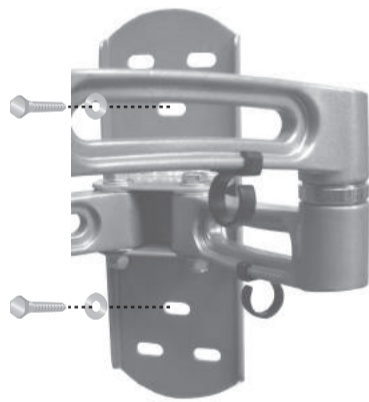

Fig. 1 - Attach the wall plate to the wall.
5. Place the mount back against the wall and secure it using the Lag Bolts (Q) and Lag Bolt Washers (R) provided (see Fig. 1). Do not over-tighten these bolts and do not release the mount until all bolts are in place.
4. Insert a Concrete Anchor (P) into each hole so that it is flush with the concrete surface. A hammer can be used to lightly tap the anchors into place if necessary. **NOTE:** If the concrete wall is covered by a layer of plaster or drywall, the concrete anchor must pass completely through the layer to rest flush with the concrete surface.